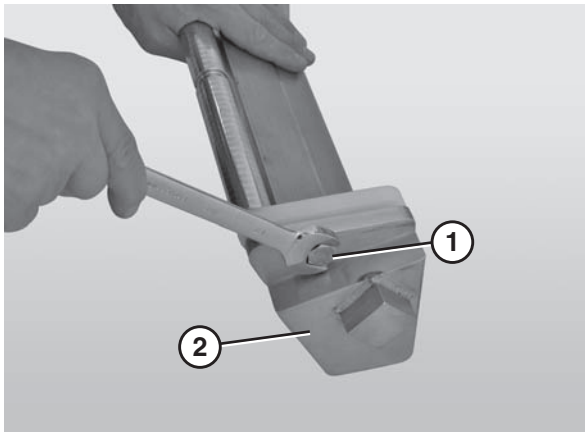

Figure 82
4. Use a 17 mm wrench to remove both pilot nose bolts (**Figure 82, item 1**) from the nose bar weldment (**Figure 82, item 2**).